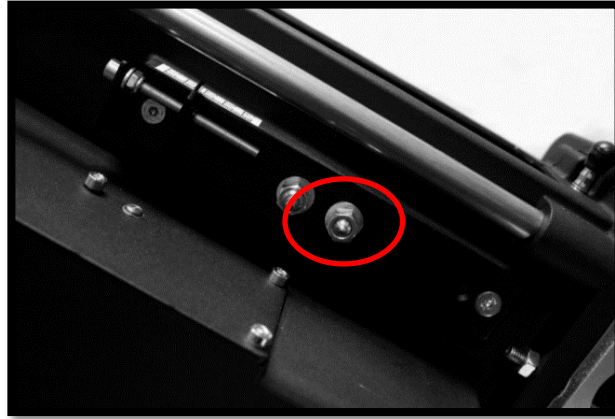

Figure 12
5. Remove the nut on the right side of the burner housing, see Figure 12.